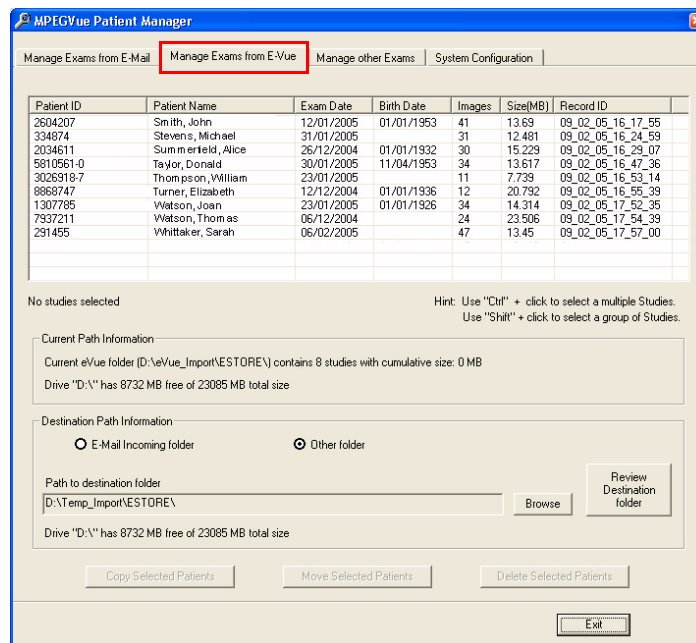

Figure 3-183 MPEGVue Patient Manager Window - Manage Exams from E-VueTab
a.) Make sure the Manage Exams from Evue tab is activated as shown in Figure 3-183.